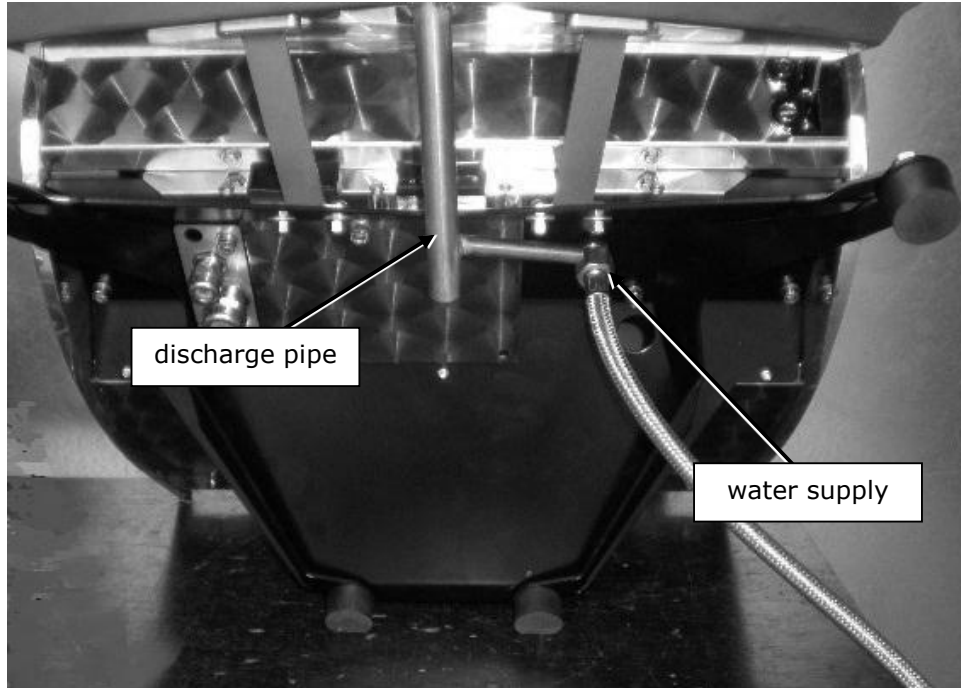

Figure 4. Speedster is tilted on its back, water supply is connected. Discharge pipe is indicated.
8. Close the washing machine tap and connect the loose end of the high pressure hose to the water connection on the bottom of the Speedster with a 20 mm spanner. The Speedster may be tilted in such a way that it rests on the two hind-legs and the back of the machine, see figure 4.
1. Position the stainless steel hose clamp on one end of the discharge hose. Slide the end of the hose over the discharge-pipe of the drip tray (see figure 4) and tighten the hose clamp.